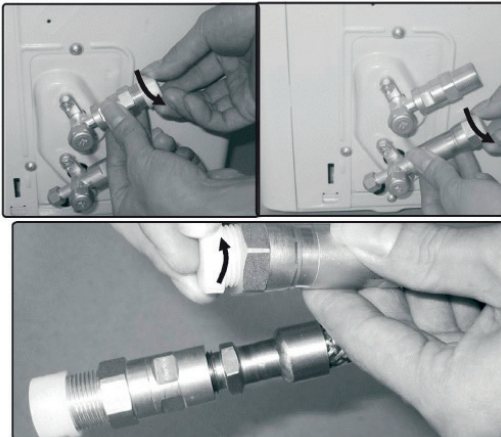

Fig. 6.2
2. Do not remove the plastic seals from the outdoor unit and the appropriate refrigerant pipes until immediately before you connect them, Fig.6.2